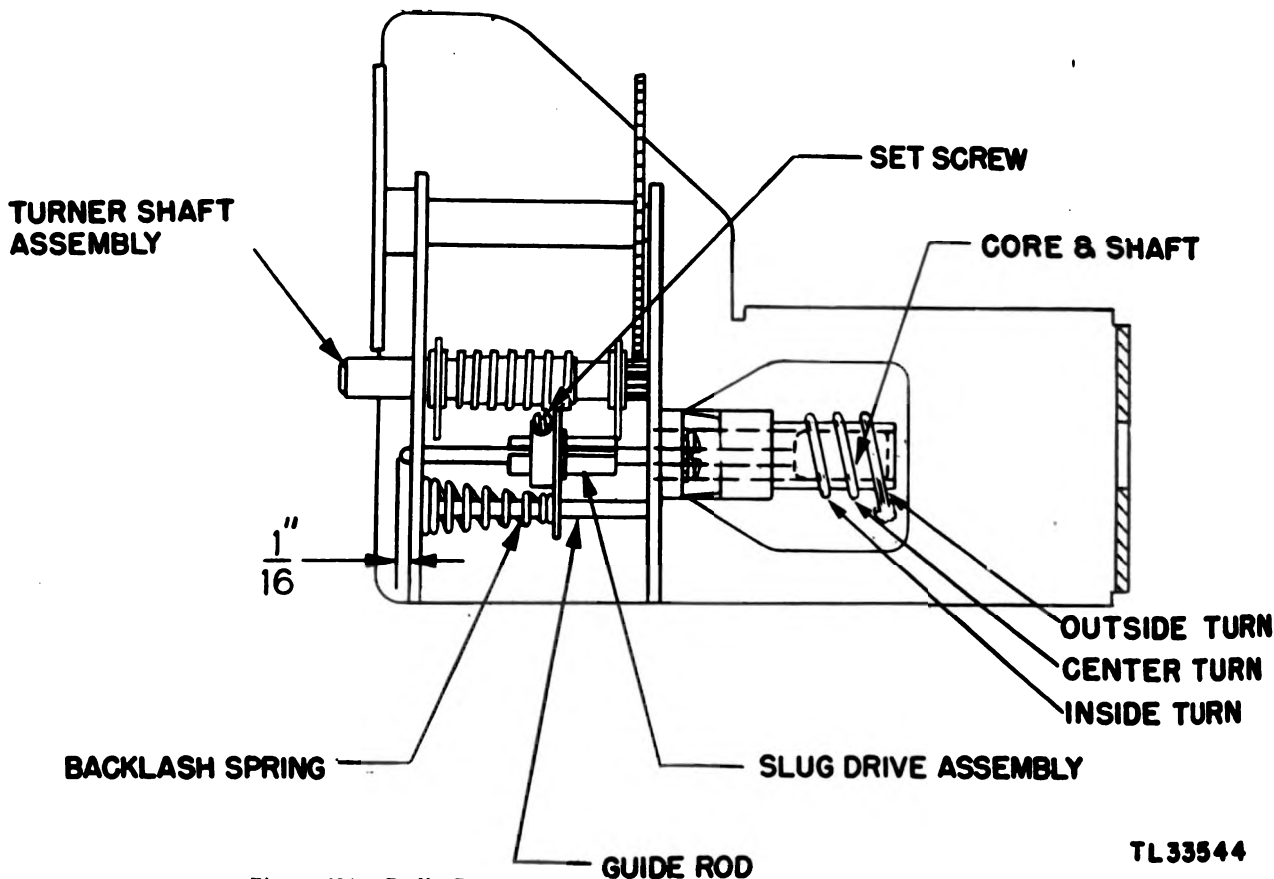

Figure 181. Radio Receiver and Transmitter BC-1267-A, r-f tuner assembly.
d. Loosen the setscrew on the slug-driver assembly (fig. 181) and adjust the tuning cores until their shafts extend 1/16 inch out from the tuner front plate (see fig. 181). To do this the tuner must be removed from the chassis. (If the coil has been replaced, this has already been taken care of.) Set the signal generator at 156 mc and tune the OSC. dial to maximum eye closure.
If the OSC. dial fails to check against the calibration point for 156 mc, adjust the outside turn and the center turn on the OSC. coil until the correct dial setting is obtained (see fig. 181). (The outside turn is next to the rear of the tuner.) The spacing should be adjusted by bending the outside turn away from or toward the center turn.
f. Set the signal generator at 186 mc and tune the OSC. dial to resonance, as indicated by maximum eye closure. If the OSC. dial fails to check with the calibration chart, adjust the spacing between the inside turn and the center turn until the correct dial reading is obtained (see fig. 181). (The inside turn is next to the front panel.)